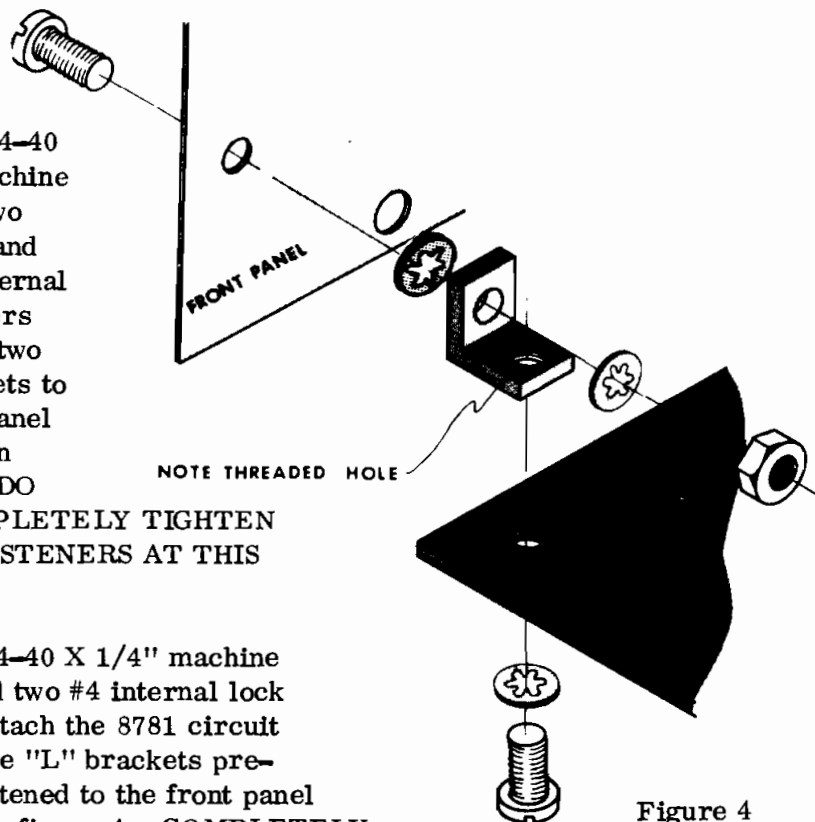

Figure 4
- () Using two 4-40 X 1/4" machine screws, two 4-40 nuts and four #4 internal lock washers attach the two "L" brackets to the front panel as shown in figure 4. DO NOT COMPLETELY TIGHTEN THESE FASTENERS AT THIS TIME.
- () Using two 4-40 X 1/4" machine screws and two #4 internal lock washers attach the 8781 circuit board to the "L" brackets previously fastened to the front panel as shown in figure 4. COMPLETELY TIGHTEN ALL HARDWARE.